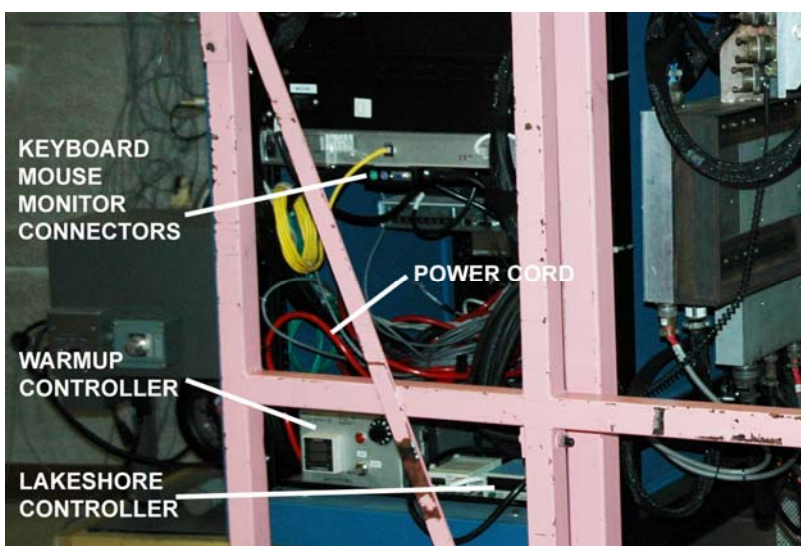

Figure 1: Back view of FLAMINGOS, showing the MOS dewar warmup controller.
2. Locate the warmup controller on the lower back side of the right-hand FLAMINGOS electronics rack (the one containing the flamingos1a computer and the motor controller; Figure 1). It is a small aluminum module with a switch, display window, and a dial which should be set to 5 for warming up the MOS dewar. It will have a dedicated power cord which is tied up to the back of the rack.
4. Turn on the warmup controller (Figure 1); there are two power switches, a rocker switch on the back of the box and the key on the front. The red light should come on and the temperature display should indicate the current and setpoint temperatures. At this point the heater can be left to boil off the residual LN₂ in the MOS dewar and warm it up to room temperature, which will take 4 – 5 hours.